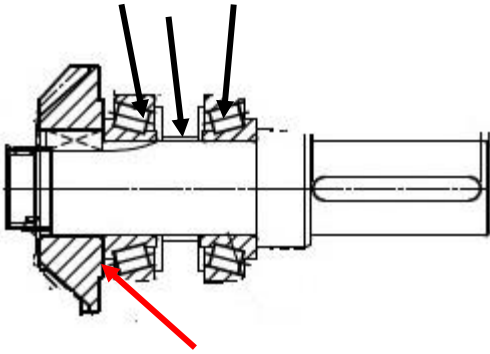

Figure 116
6. Make certain that the spacer is between the bearings. Press the bearings on the shaft until they are against the collar on the shaft. Figure 116